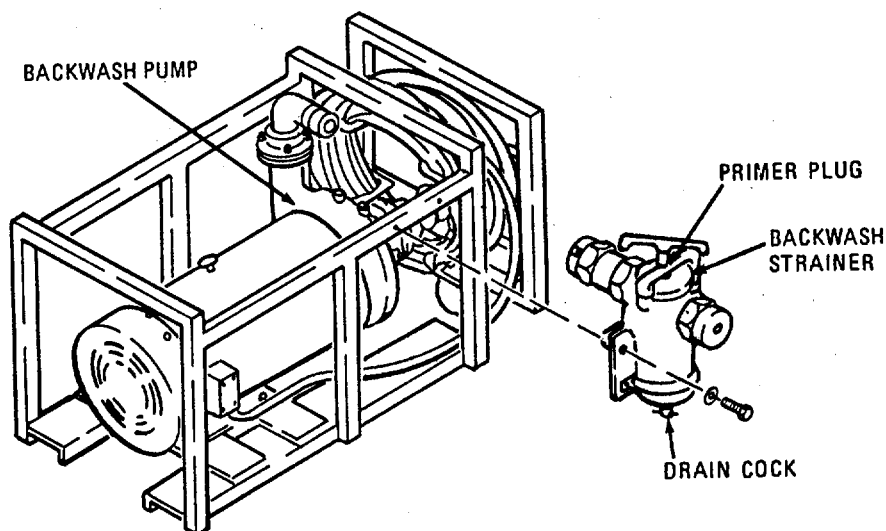

FIGURE 2-30. BACKWASH PUMP AND STRAINER
- (14) Install backwash strainer onto the backwash pump frame (figure 2-30) as follows: